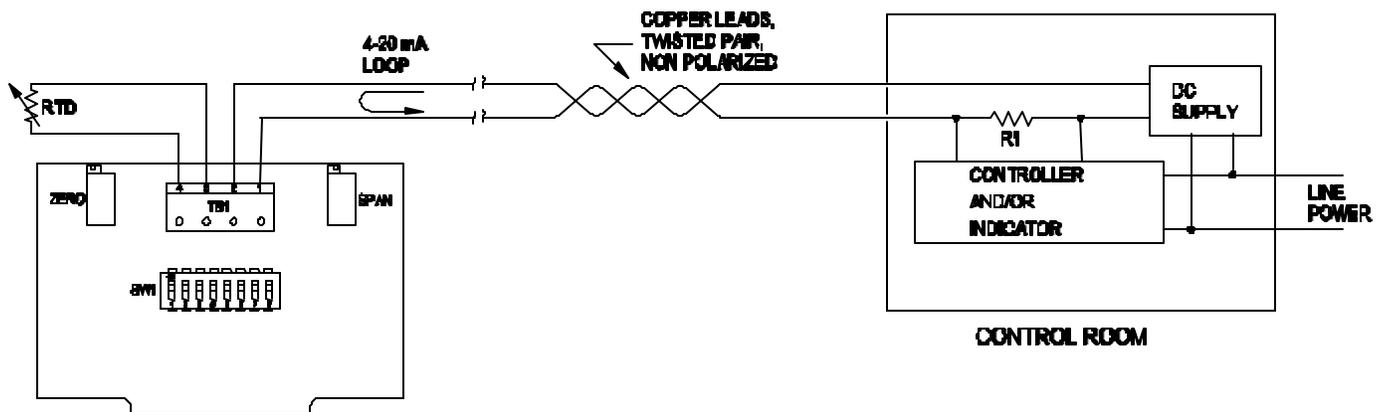

Figure 1
Installation consists of mounting the transmitter and connecting it to power. The housing is mounted using two fold-out tabs on the bottom. Power and RTD wires are connected to the transmitter by 4 screw terminals located near the edge of the circuit board (Figure 1). The transmitter's power and RTD connections are designed for non-polar hook-up, so polarity is not important. Locate the transmitter near the RTD in an area where the ambient temperature stays between -40 and 85 °C (-40 and 185 °F).
- Connect a 100 ohm RTD to the "RTD" terminals as shown below (Figure 1).